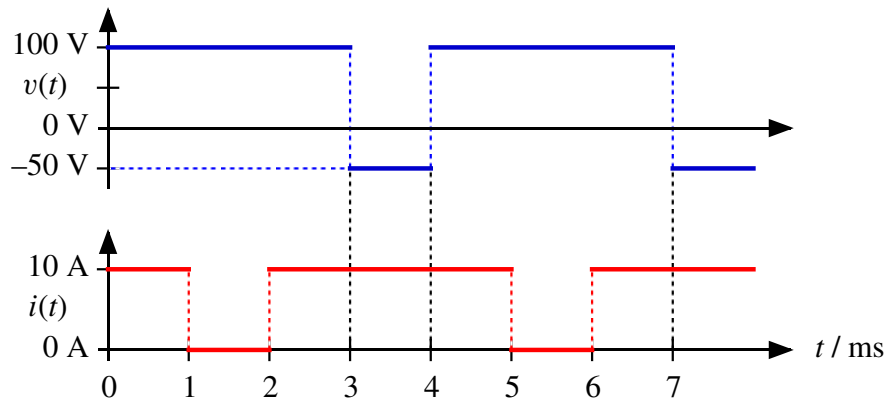

Figure 9. Voltage and current supplied to a component.
2.6 The voltage $v(t)$ and current $i(t)$ shown in figure 9 are supplied to a component. Sketch the power $p(t)$ supplied to the component and calculate the average value over its 4 ms period.